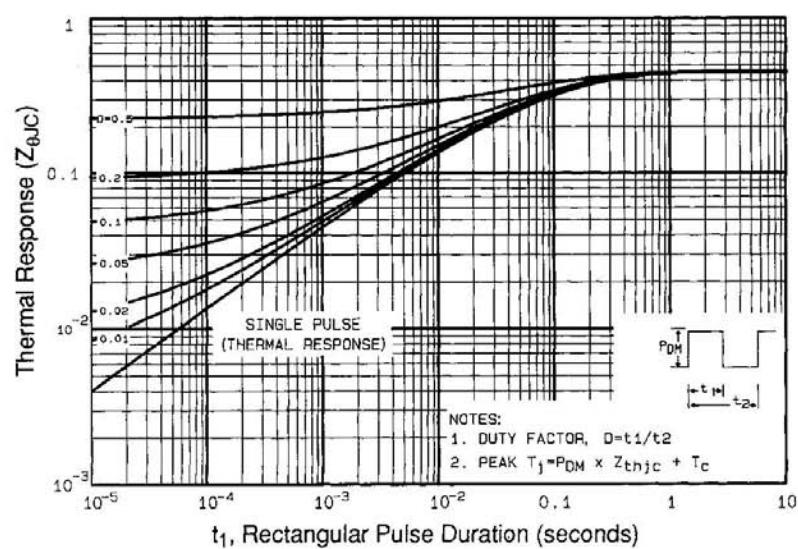

Fig 11. Maximum Effective Transient Thermal Impedance, Junction-to-Case
① Repetitive rating; pulse width limited by max. junction temperature (See Figure 11)
③ $I_{\text{SD}} \leq 38\text{A}$, $dI/dt \leq 210\text{A}/\mu\text{s}$, $V_{\text{DD}} \leq V_{(\text{BR})\text{DSS}}$, $T_J \leq 150^\circ\text{C}$
② $V_{\text{DD}}=50\text{V}$, starting $T_J=25^\circ\text{C}$, $L=1.1\text{mH}$